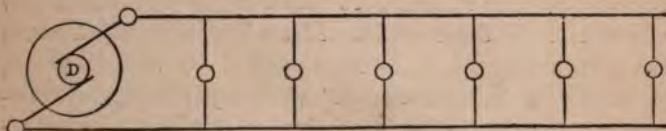

Fig. 40.—Diagram of the Parallel System.
The simplest idea of the parallel system that can be given is represented in Fig. 40, where D is a dynamo,
*Fall of Potential or “Pressure.”*—Let us examine this a little further. It is a well-known fact that if two mains led from the poles of a dynamo, as in the diagram (Fig. 40), be very long, the electrical pressure between them will fall off in proportion to